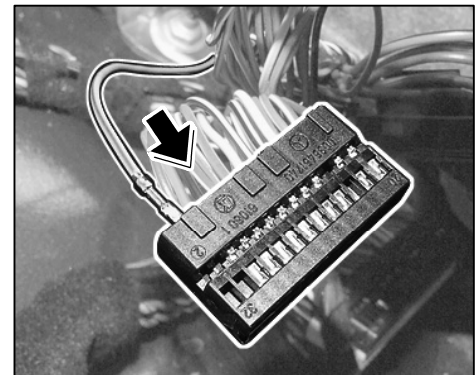

Figure 35
8.4.4 Insert socket contact of GY/GN line into chamber 31 ⇒ *Figure 35 -arrow-* of the plug socket.